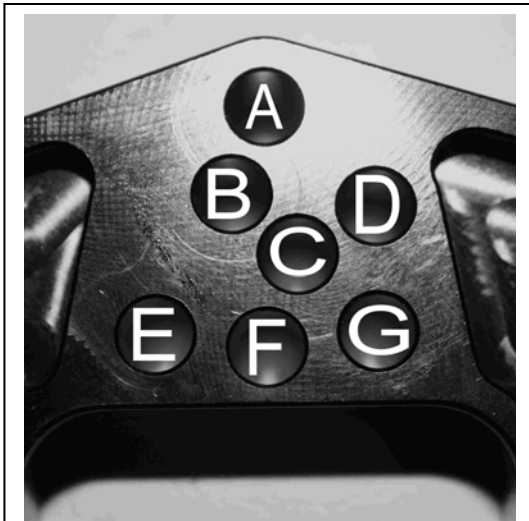

Figure 3
3. Align the letter and number associated with your router (Figures 3 and Figure 4) and reinsert and tighten the 1/4- x 1-1/2" Shoulder Bolt you removed in step 2.